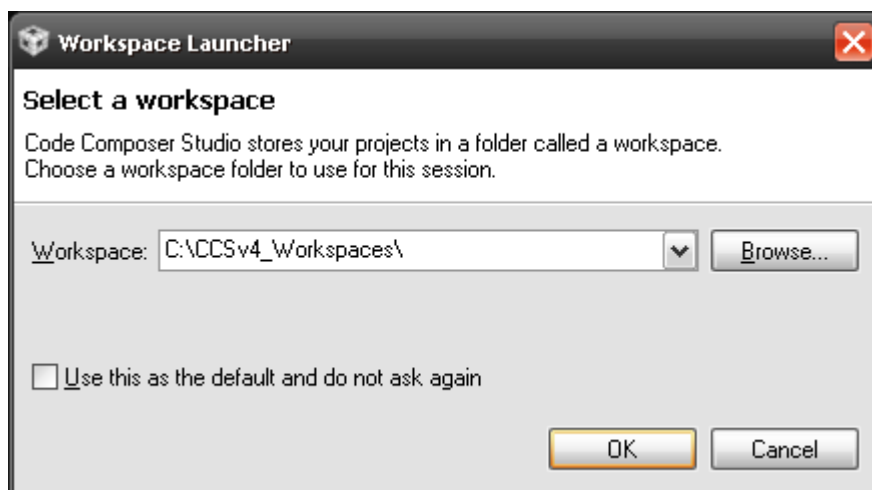

Figure 3-1. Selecting a CCS Workspace
1. If you have not already done so, download the sample code from the MSP-EXP430F5438 tools page MSP-EXP430F5438(A) Example Software (SLAC227).
5. Open CCS and select a workspace directory (see Figure 3-1).